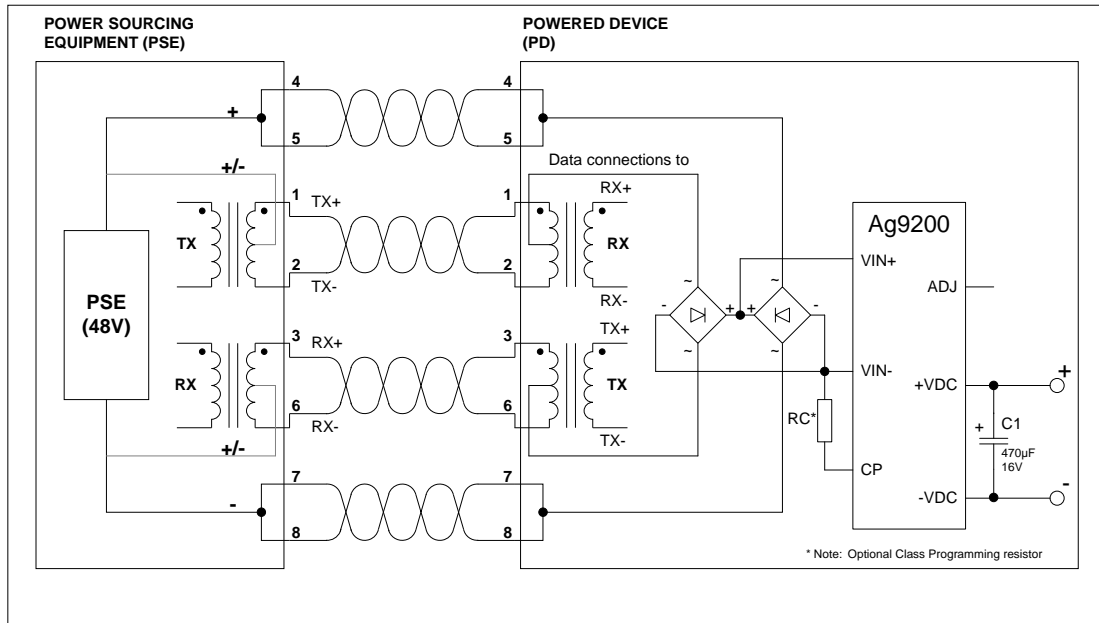

Figure 1: Typical Connection Diagram
Figure 1 shows a basic (10/100 BASE-T) block diagram for connecting Power Sourcing Equipment (PSE) to a Powered Device (PD) that uses an Ag9200 module.
Therefore one of the requirements of the PD is that it must have input polarity protection to enable it to work with both Mode A and B shown in Table 2. The Ag9200 does not have on-board input polarity protection, but this can be simply achieved by using two external bridge rectifiers as shown in Figure 1.